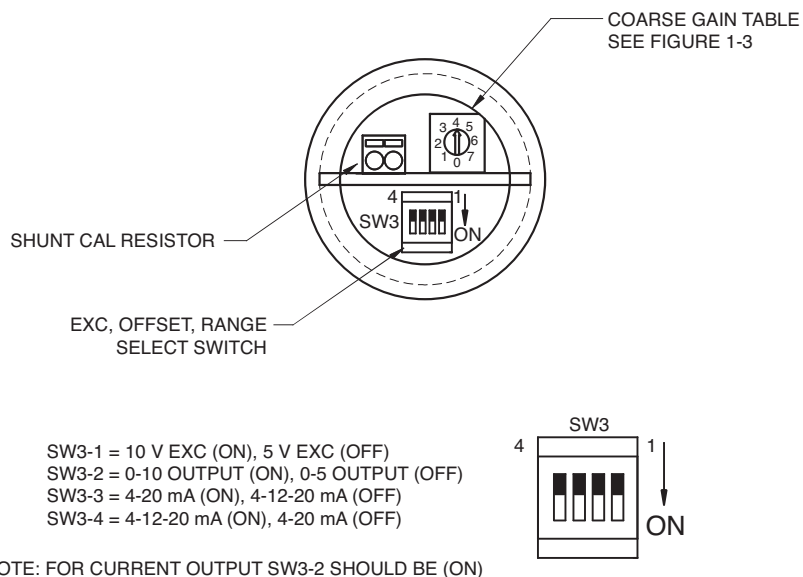

Figure 1-2. Adjustments Behind The 5 PIN M12 Connector
3. Set the EXCITATION Switch using SW3-1 OFF for 5 volts, ON for 10 volts excitation: (See Figure 1-2 for location of SW3).
5. Set the COARSE GAIN SWITCH (See Figure 1-2 for location of switch) to the nearest mV/V setting in the corresponding excitation column in Figure 1-3.
For a 4-12-20 mA current output used with tension-compression load cells or compound pressure sensors (12 mA is ZERO). SW3-2, SW3-4 are ON and SW3-3 is OFF. See Figure 1-2 for locations and chart.
7. If the transducer or load cell has a shunt calibration resistor value, it can be installed inside the IN-UVI at this time in the spring-cage connector shown in Figure 1-2. The resistor leads can be bent and cut to a length of 0.5 inches from the body of the resistor and pushed into the connector using needle nose pliers. The resistor can be removed by inserting a small blade of a slotted screwdriver (0.4 x 2 mm TIP) into the slot above the resistor to release the spring holding the resistor leads. Be sure to locate the resistor away from the case or the PCB on the connector.